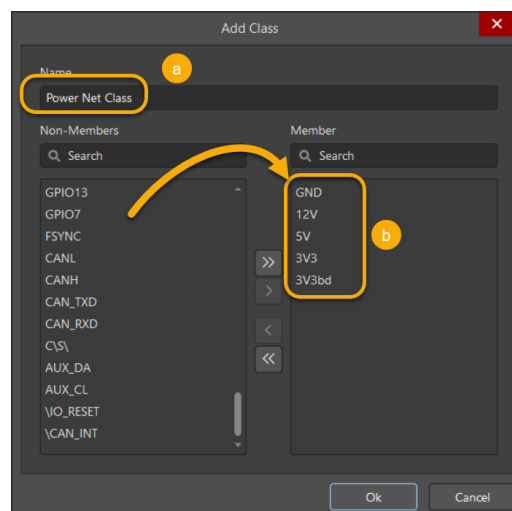

Figure 5. Define Power Class
- b) Add the net *GND*, *12V*, *5V*, *3V3*, and *3V3bd* to the Class. Select **OK** to close the dialog, as seen at Figure 5.